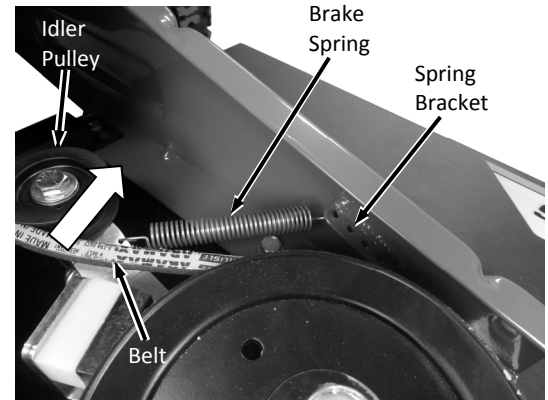

Figure 28
2. Unhook the end of the Brake Spring where it attaches to the Spring Bracket (Figure 28).